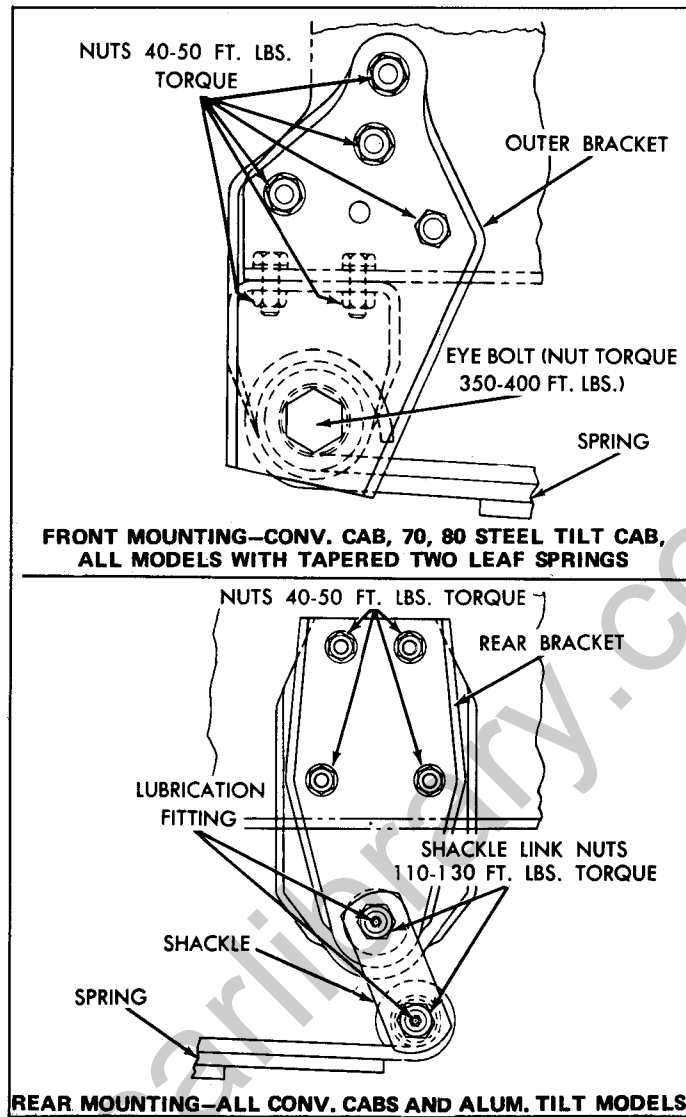

Figure 1—Front and Rear Mountings (Front Spring) (Typical)
Springs are attached to front axle center with U-bolts, and secured to frame rails as shown in figures 1, 2, and 3. U-bolts may also secure shock absorbers, tow eyes, and power steering cylinder brackets when used. Spring eyes on all models are equipped with replaceable bushings.
- MULTI-LEAF TYPE (Figs. 1 and 2)